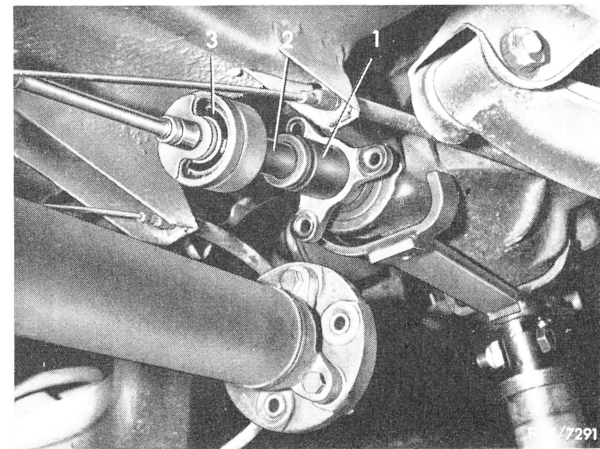

Fig. 2
- 5 Measure friction torque of entire rear axle drive and record (Fig. 2 and 3).